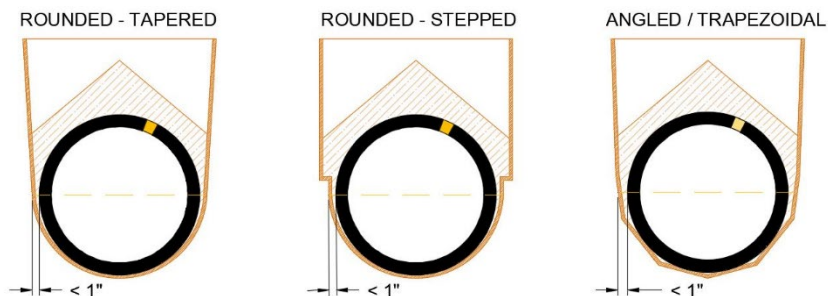

Figure 2: Potential Shaped Bottom Boot Options
To help aid with initially feeding the pipe through the boot, and reduce friction as the pipe moves through, the inside width of the boot shall be approximately **3" wider** than the outside diameter (OD) of the pipe (Figure 2). Therefore, a boot for 12" Goldflex pipe will be approximately 17.5" wide (Table 1).